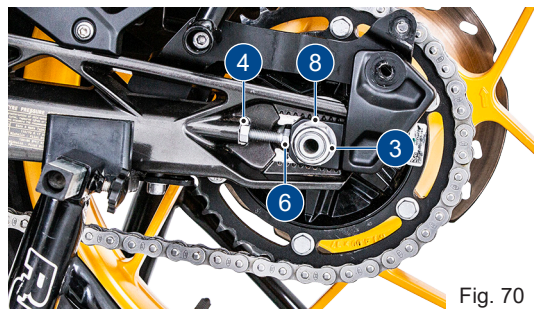

Fig. 70
- Remove the axle mounting nut (3) (ref. Fig 70) using the proper tool from the tool kit (refer page 192).
- Release the lock nuts (4 & 5) and screw-in the adjuster bolts (6 & 7) (ref. Fig. 70 & 71).